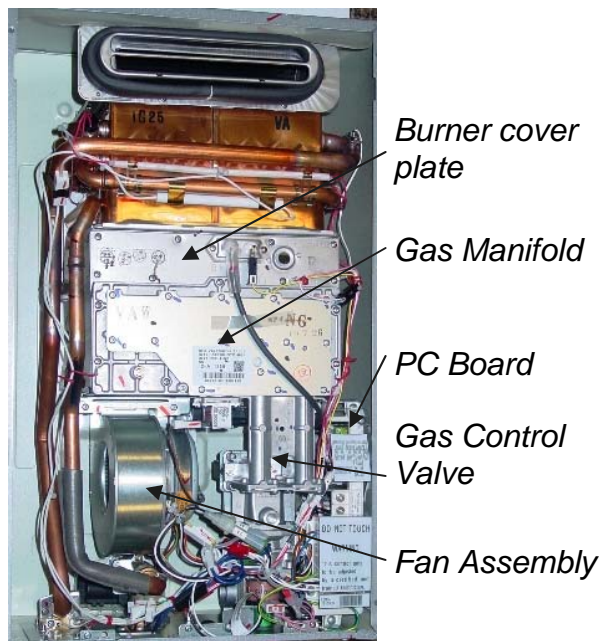

Figure 1
32. Attach the brackets to the water line connections. (Figure 1)
33. On the V53e and R63LSe, install the bracket with the surge protector (3 screws). (Figure 1)